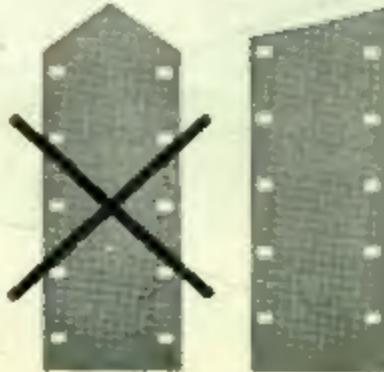
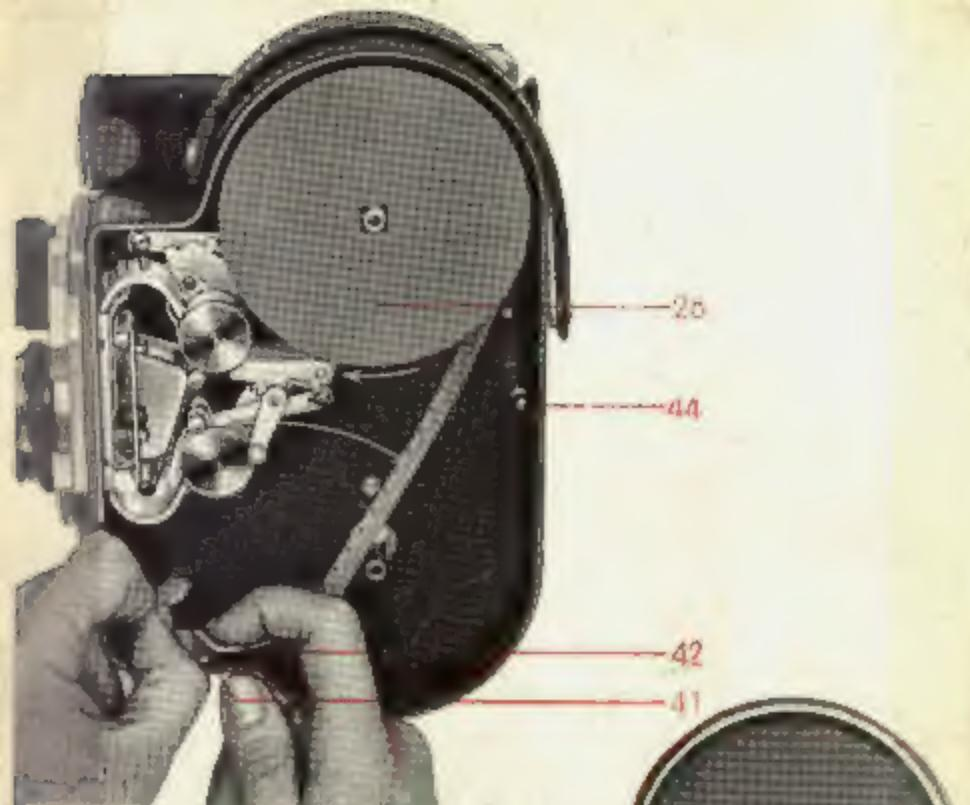

Fig. 4.
Fig. 5.
- Place the spool of film on top spindle 29 so that the film will unwind in the direction of the arrow shown in Fig. 5 (clockwise).
- The film must not be cut to a point (Fig. 4) nor must it be crinkled. Hold the film between the thumb and the index finger of the right hand and pass it through knife 41 (see Fig. 5 and 7). With the index finger of the left hand press hard on blade 42, which will cut the end of the film to the